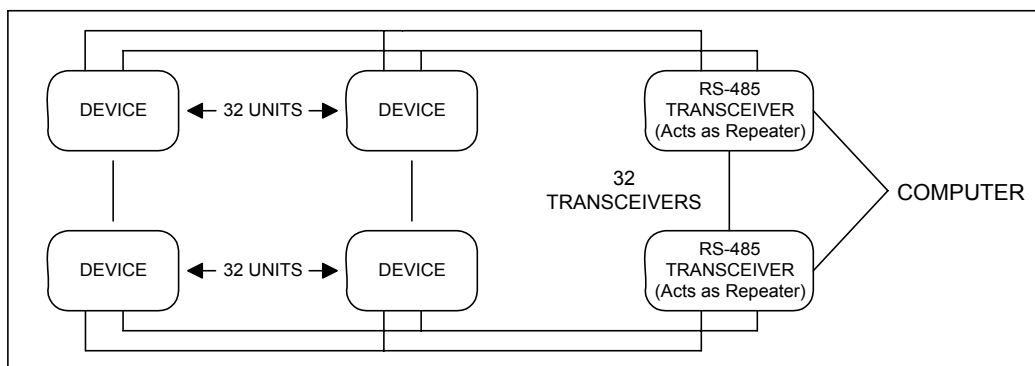

FIGURE 4-7: 2-Wire RS-485 Communication Installation Connection with Transceiver
- In a two-wire connection, a maximum of 900 instruments can be included in the same network (**Figure 4.7**)